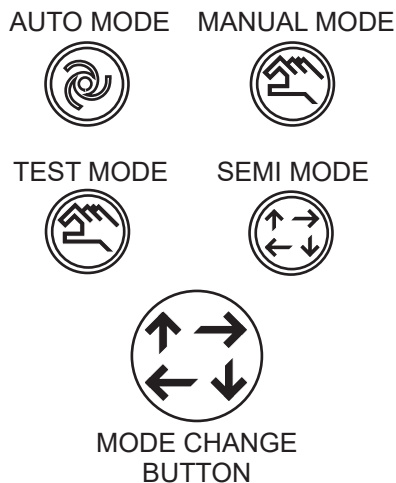

Figure 141. Operational Mode Buttons
2. Verify that the four **Operational Mode buttons** (Figure 141) are displayed just above the **Mode Change button**.